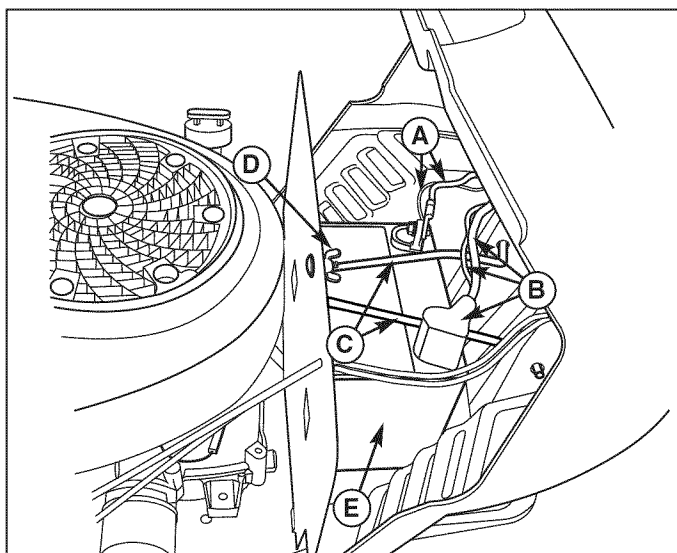

Figure 10. Battery Maintenance
1. Disconnect the cables from the battery, negative cables first (A, Figure 10) then the cover & positive cables (B).
2. Loosen the wingnut & washer (D).
3. Pivot the hold-down rod (C) up and away from battery. Secure to steering tower.
4. Remove the battery (E).
7. Reinstall the battery (E) in the battery compartment. Secure with the battery hold-down rod (C) and wingnut & washer (D).
8. Re-attach the battery cables, positive cables and cover first (B) then the negative cables (A).